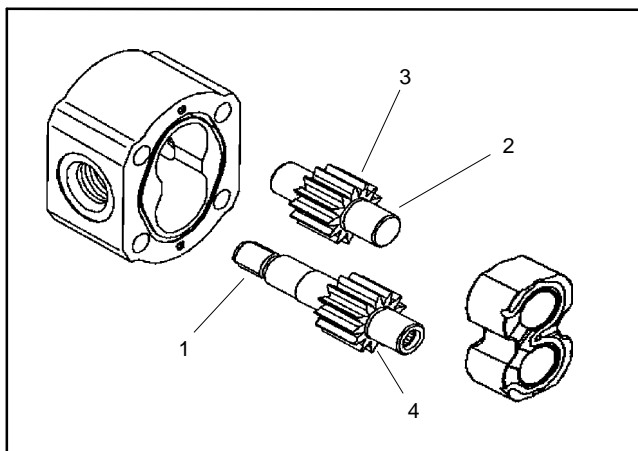

Figure 30
3. Inspect drive and idler shafts for the following (Fig. 30):